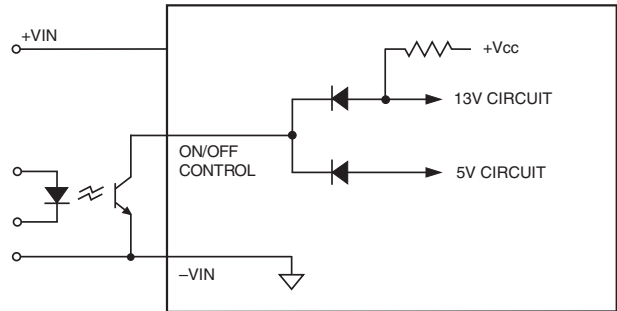

Figure 5. Driving the Negative Logic On/Off Control Pin (simplified circuit)
**Positive** (“P” suffix) logic models are enabled when the on/off pin is left open (or is pulled high, applying +3.5V to +15V with respect to –Input) as per Figure 5. Positive-logic devices are disabled when the on/off pin is pulled low (0 to 1V with respect to –Input).
**Negative** (“N” suffix) logic devices are off when pin is left open (or pulled high, applying +2.5V to +15V), and on when pin is pulled low (–0.1 to +0.8V) with respect to –Input as shown in Figure 5.